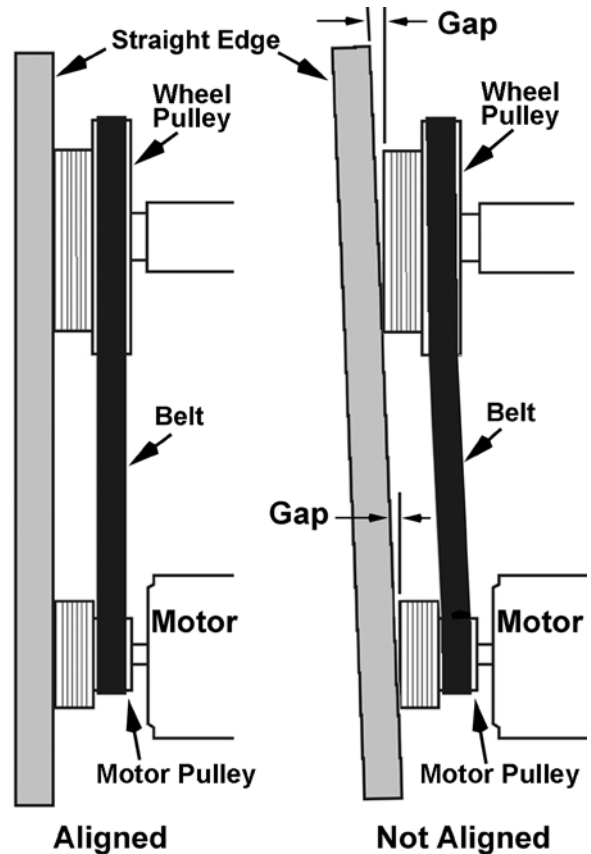

Figure 28
1. Uses a straight edge placed against the wheel pulley and motor pulley and refer to Figure 28 to determine if alignment is necessary.
4. Confirm the alignment of the V-belt by placing a straight edge against the faces of both pulleys, (Figure 28). If the straight edge lies flush against both pulleys, then the pulleys and belt are aligned.